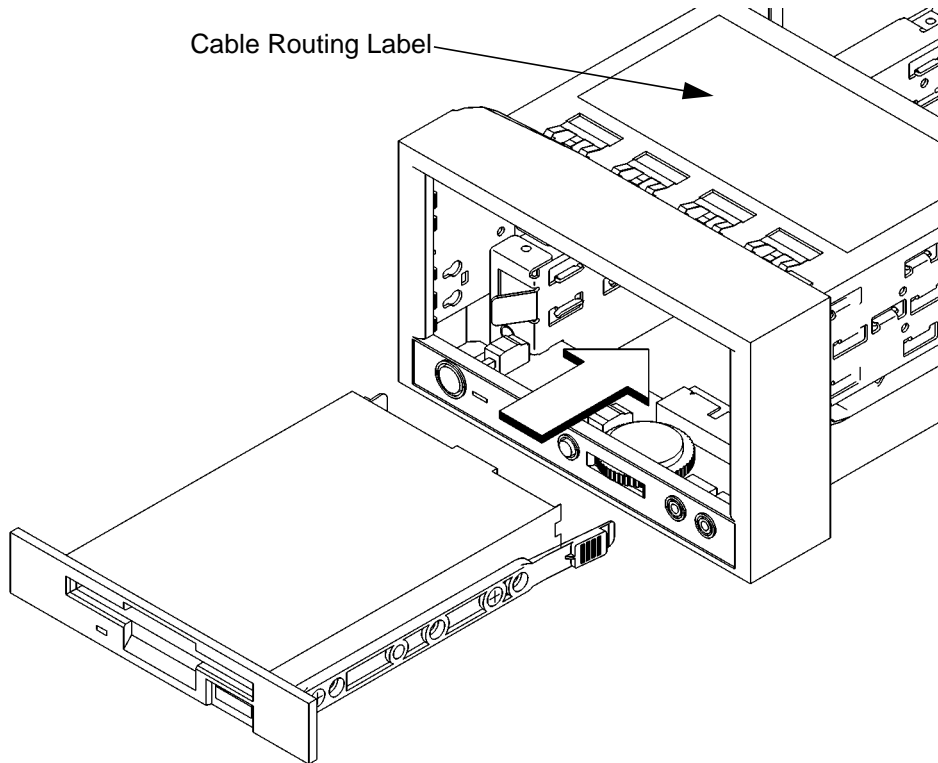

Figure 28 **Installing a Floppy Drive**
Refer to the cable routing label on the storage tray. See Figure 28.
- 4 From the front of the storage tray, line up the disk slides on the floppy drive with the position 2 slots in the storage tray chassis and slide it into place, as shown in Figure 28.